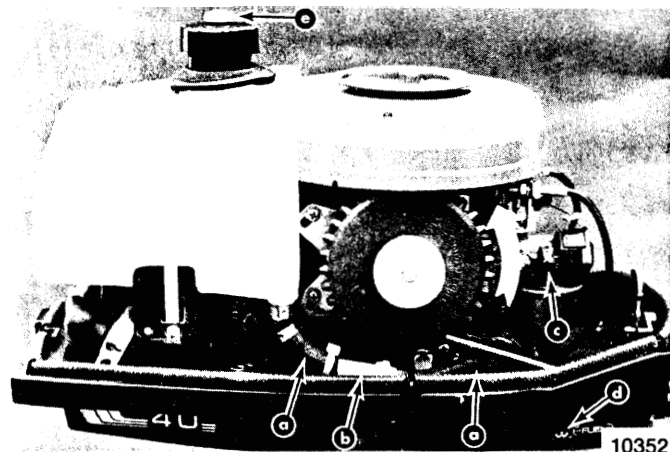

Figure 5. Right Side View of Merc 40
8. Cut sta-strap and disconnect fuel line at in-line filter [1/2" (38mm) fuel line remains on fuel tank]. (Figure 5)